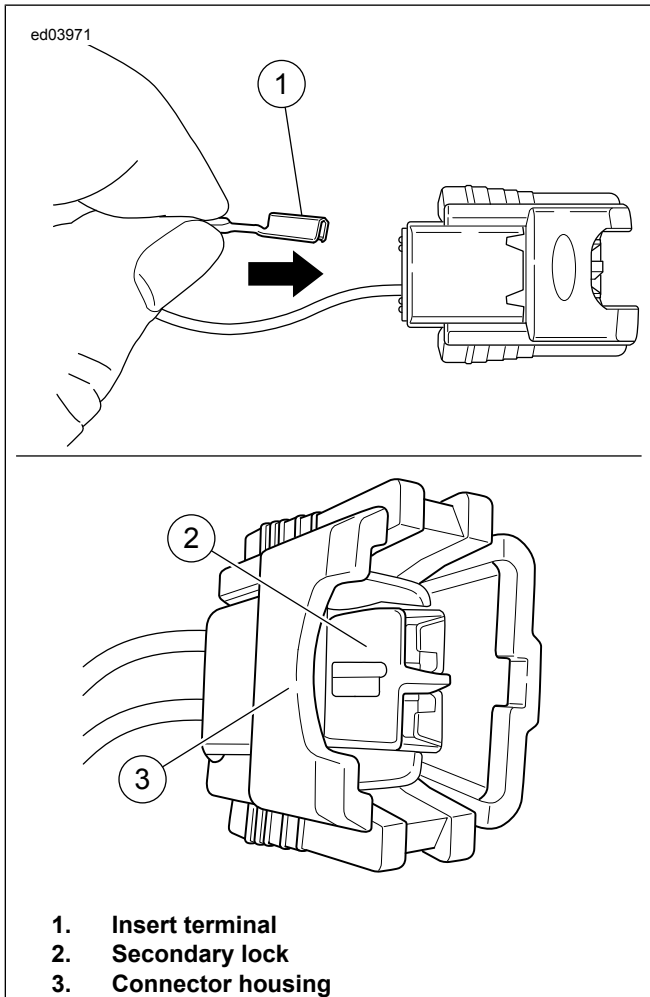

Figure B-29. Installing Terminal
- See Figure B-29. Verify that the terminals are properly crimped.